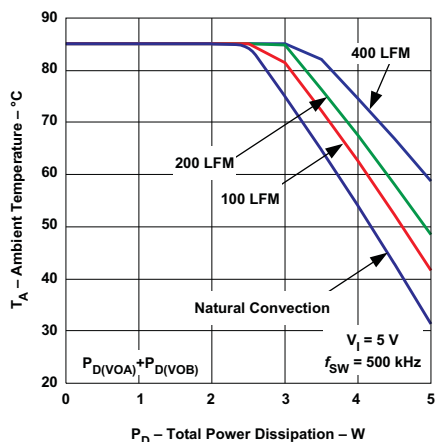
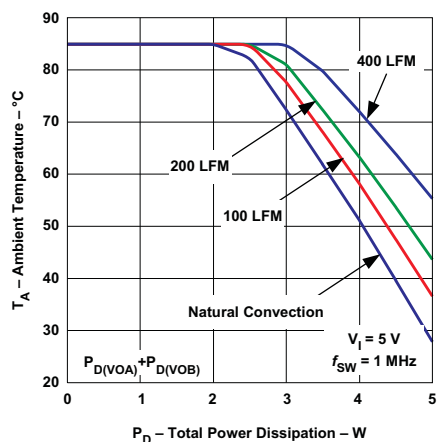

Figure 16. Safe Operating Area
Figure 18. Safe Operating Area
- (2) The temperature derating curves (Figure 16 through Figure 18) represent the conditions at which internal components are at or below the manufacturer's maximum operating temperatures. Derating limits apply to modules soldered directly to a 100-mm x 100-mm, double-sided PCB with 2-oz. copper. See the Safe Operating Area application section of this datasheet.